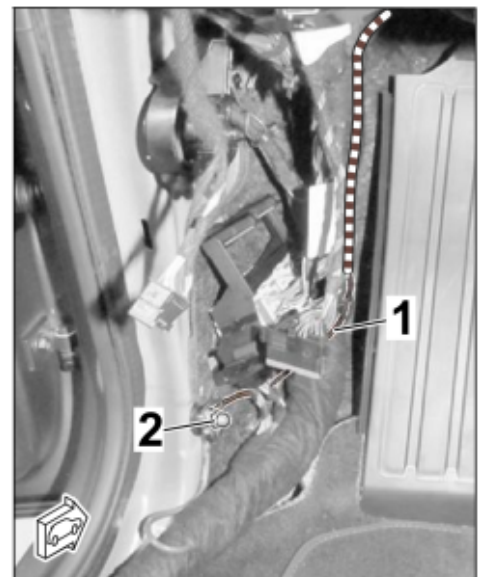

Figure 35
2.7 Route line BN; 1.0² with cable shoe (ground) to the ground pin MB 21 (left-hand drive) and install it (⇒ Figure 35).